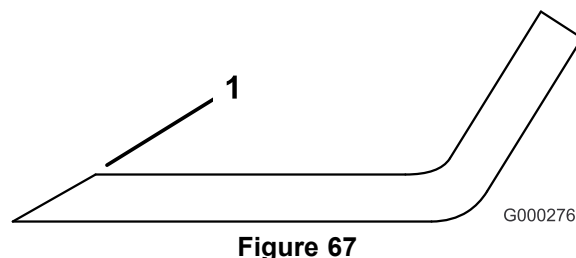

Figure 67
1. Sharpen the cutting edge at both ends of the blade (Figure 67). Maintain the original angle. The blade retains its balance if the same amount of material is removed from both cutting edges.